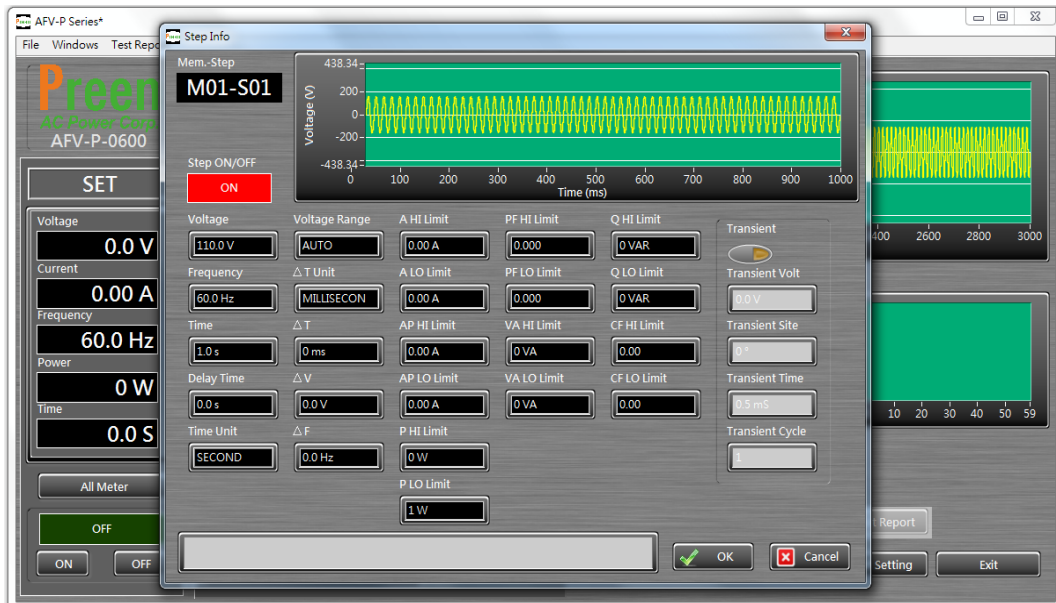

Figure 7.9 Setting page of the PROGRAMMABLE page
- 1) Click to enter into the PROGRAMMABLE page of the remote control software (see Figure 7.9) for the desired Step of the Memory Set. The description for the items at the PROGRAMMABLE page of the control software is similar to